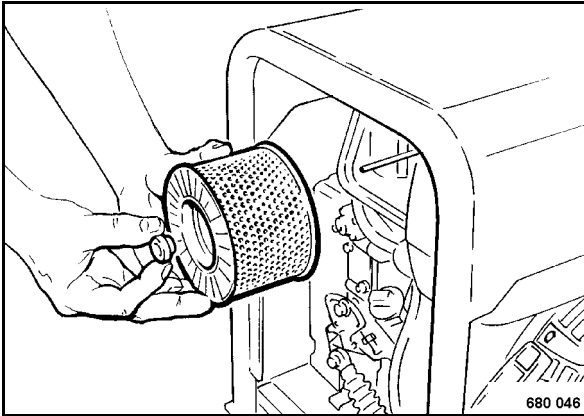

Fig. 41
- Unscrew the knurled nut and take the air filter cartridge off (Fig. 41).